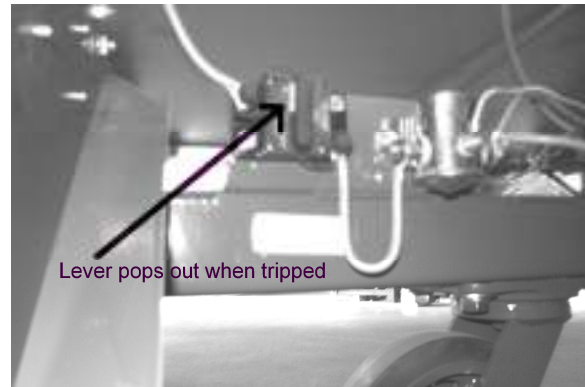

Figure 7 Circuit Breaker
1. Check circuit breaker. (See figure 7) **Safety first – Turn off and remove key!** Push battery drawer to left side of cart to gain access to circuit breaker. If circuit breaker is tripped, press lever back in to reset.